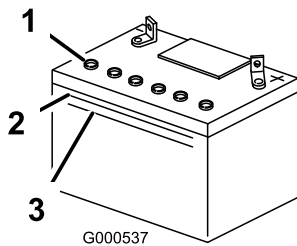

Figure 42
- Look at the side of the battery. The electrolyte must be up to the **upper** line (Figure 42). Do not allow the electrolyte to fall below the Lower line (Figure 42).
5. Remove the vent caps from the battery (Figure 42).
6. Slowly pour distilled water into each battery cell until the electrolyte level is up to the Upper line (Figure 42) on the battery case.
7. Wait 5 to 10 minutes after filling the battery cells. Add distilled water, if necessary, until the electrolyte level is up to the Upper line (Figure 42) on the battery case.